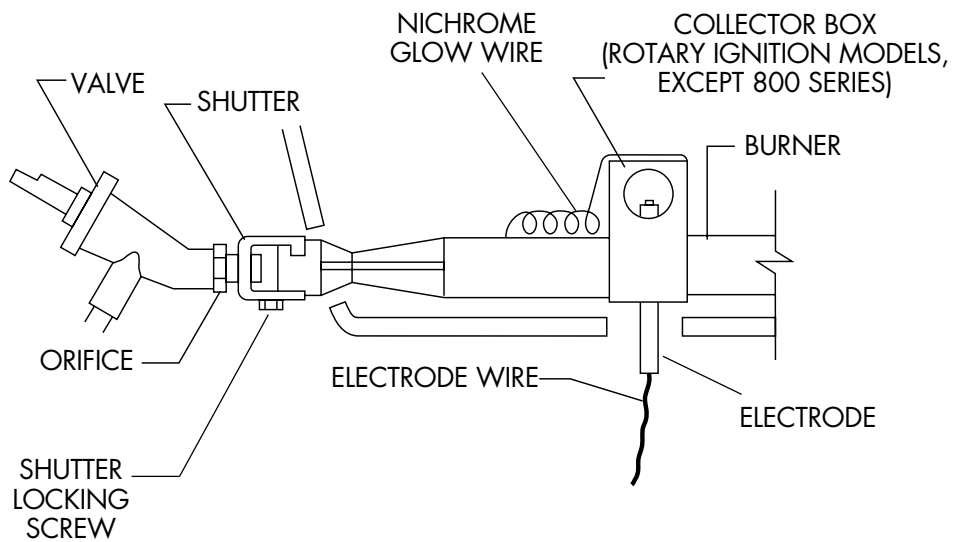

FIG. 33
1. Feed the electrode wire through the hole in the bottom of the burner box while sliding the main burners through the front of the burner box. Be sure the burner shutter engages over the valve orifice. (See Fig. 33)
5. Feed the rotis electrode wire into the burner box hole while sliding it through the front of the burner box. Be sure the burner shutter engages over the valve orifice. (See Fig. 33)